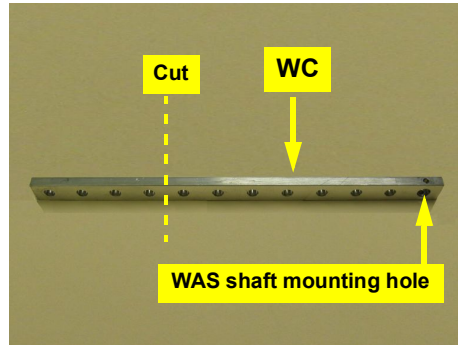

Figure 1b: WAS connector arm preparation
- Cut four holes off the WAS arm **WC** at the opposite end from the WAS shaft mounting hole (Figure 1b).